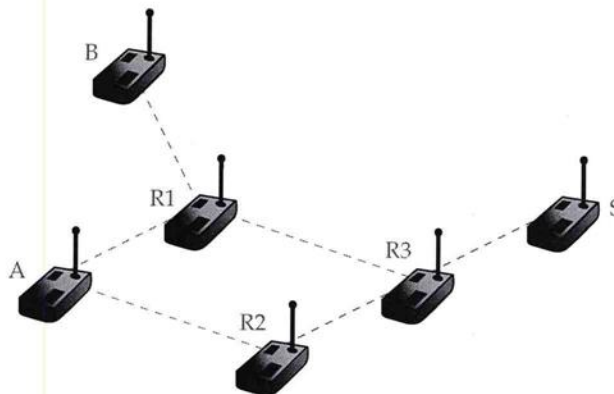

Figure 1: Network structure for question 8. Gray lines indicate connectivity between nodes.
- (b) For each of these effects, describe how the effect leads to a, so called, waste of energy. (6)
- (c) Are these effects typically easier avoided in contention-based or contention-free MAC protocols? Motivate your decision. (4)
- (a) Which layer(s) does IEEE 802.15.4 implement? (2)
- (b) What is the main purpose of this layer / these layers? (4)
- (c) An 802.15.4 packet contains more information than just the data that should be transmitted. Name three other contents that are typically found in a packet and describe what these contents are used for. (4)
- (a) What is the task of the RDC layer? (2)
- (b) The standard protocol for Contiki's RDC layer is ContikiMAC, which implements an asynchronous RDC layer. Describe how such an RDC implementation operates and what effects its usage has on the nodes that are involved in the communication (i.e., transmitter and receiver). (4)
- (c) Assuming a radio transceiver achieves a duty cycle of 1%, what is its average power consumption of the transceiver if it consumes 20 mA during communication, 1 μ A during sleep and it operates at a voltage of 3.3 V? (4)
8. Figure 1 depicts a wireless sensor network, in which sensor data is transferred from nodes A and B to node S.
- (a) List all potential, non-looping routes for node A and B, respectively. (2)
- (b) Which routes would be selected using a minimum-hop metric? (2)
- (c) Which of the three routers (R1-R3) has the largest impact on network operation in the case of failure? Motivate. (4)
- What type of power converter should you select in order to provide a stable and sufficient supply to the sensor node? Motivate. (4)
- Assuming a converter efficiency of 78 %, how much current will be drawn from the battery if the sensor node requires 25 mA for its operation in the case that all modules are activated. (4)
- How long is the theoretical lifetime of the node if the battery has a capacity of 2000 mAh? (4)